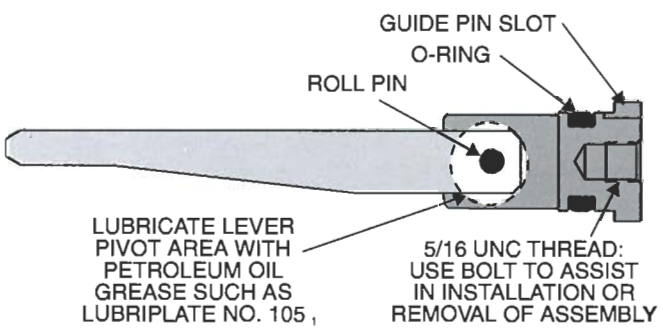

Figure 22. The Pivot & Lever Assembly.
1. Place a lubricated O-Ring onto the Pivot & Lever Assembly as shown below. Also lubricate the area where the lever pivots on the roll pin with a petroleum grease such as Lubriplate No. 105, (Refer to Figure 22).
2. Loosely screw a 5/16"-18 UNC bolt into the threaded area on the Pivot & Lever assembly to help push it into the Pilot Body. A guide pin assures the Pivot & Lever assembly is correctly oriented in the Pilot Body. Unscrew and remove the bolt when complete (refer to Figure 22 & 23).